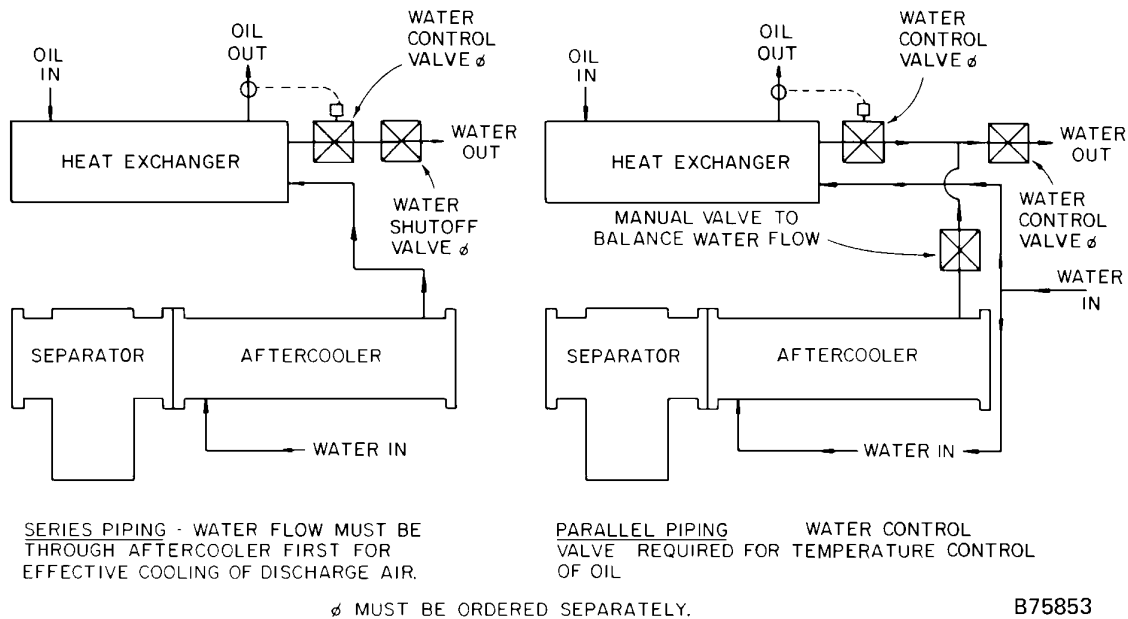

FIGURE 2-4 – PIPING DIAGRAM FOR AFTERCOOLER AND HEAT EXCHANGER
**Water-Cooled Machines** (FIGURE 2-4, page 10) - On water-cooled machines with aftercooler, the moisture separator and condensate drain are shipped loose and must be installed by customer. Customer must furnish and install all water piping required.